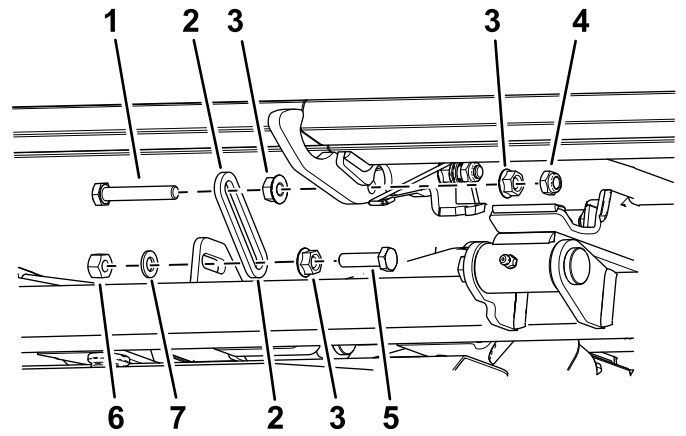

Figure 4
- 2. Install the rod connector to the hook with a long bolt, flange nuts, and locknut (Figure 4).
- 3. Install the rod connector to the hook with a short bolt, flat washer, flange nut, and locknut. (Figure 4).